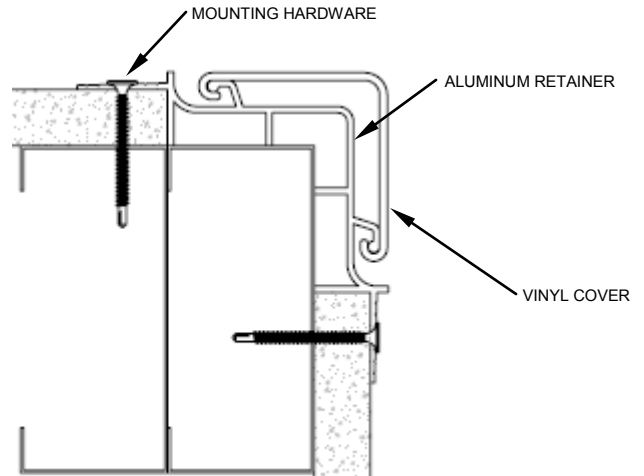

Figure 1
STEP 6. Snap the vinyl cover onto the retainer. This is done by inserting one side of the cover along the height of the retainer, and starting at one end, pressing the opposite side of the cover onto the retainer until it snaps into place (see Page 1, Figure 1).